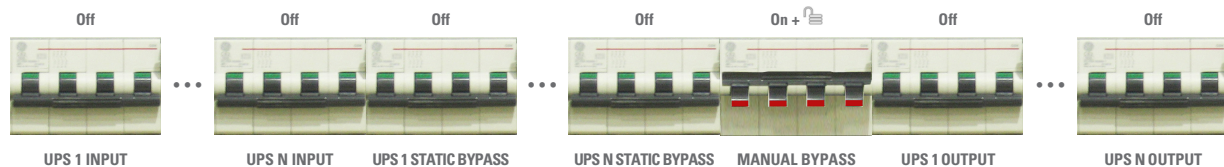

Fig. 14. Position of the bypass panel switches in «Maintenance operating» (with several UPS's).
- Turn the «UPS 1 INPUT» to «UPS N INPUT» and «UPS 1 OUTPUT» to «UPS N OUTPUT» switches of the bypass panel to «Off». In case of including the separate bypass line (-B), turn the «UPS 1 STATIC BYPASS» to «UPS N STATIC BYPASS» switches of the bypass panel «Off» too. In the illustration of Fig. 14, it is shown the position of switches once the manoeuvring has been done.